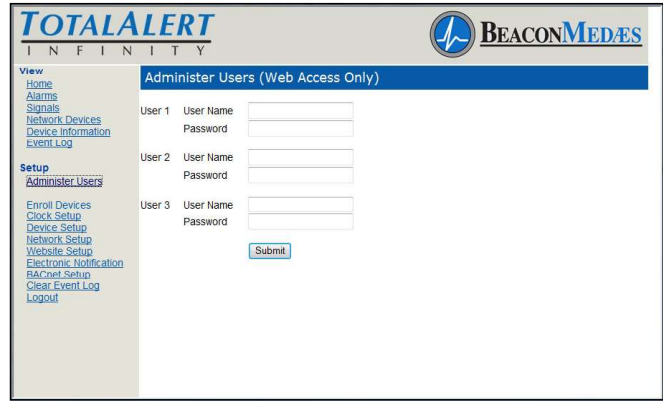

Figure 193: Administer Users
- Click on Administer Users to access the Administer Users Setup page (Figure 193)